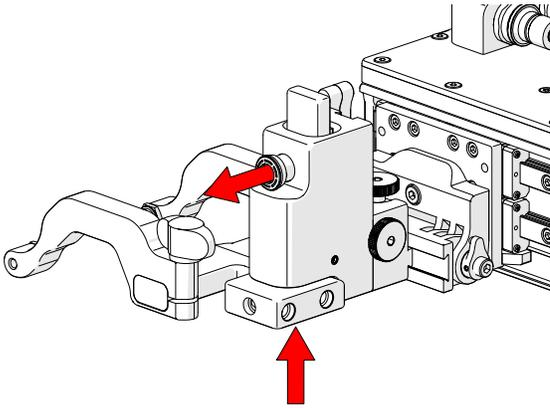
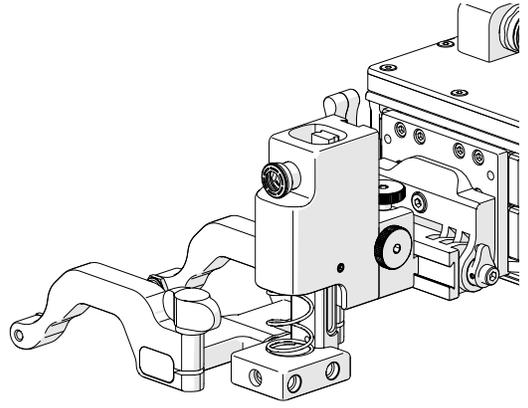

Fig. 50 - Press up and pull latch
Fig. 51 - Lowered toward scan surface
1. Gently lift the heavy duty vertical probe holder and simultaneously pull the latch (*Fig. 50*). This action will unlock the probe holder. Slowly lower the probe holder towards the scan surface (*Fig. 51*).